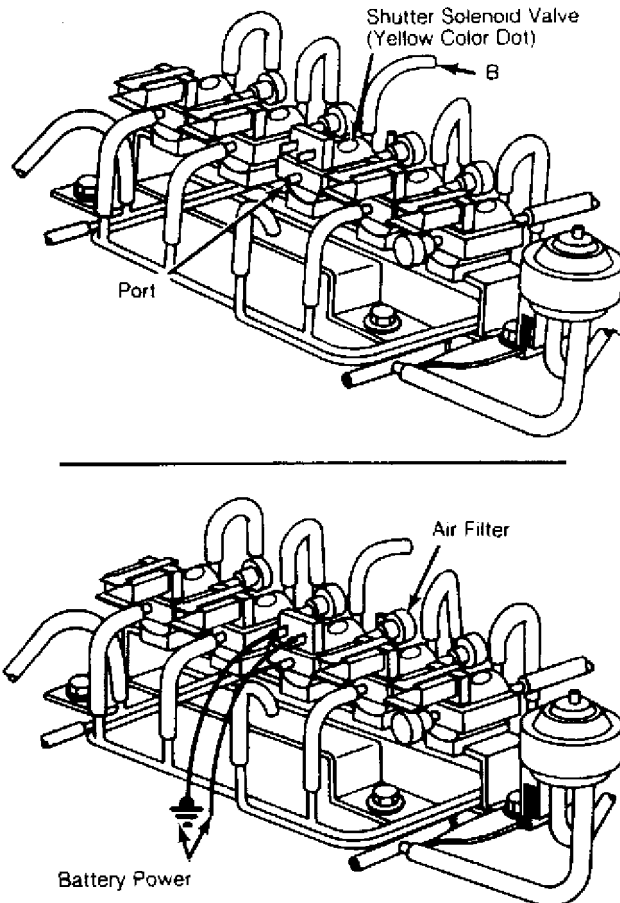

Fig. 3: Testing Shutter Solenoid Valve
1) Disconnect vacuum sensing tubes from shutter solenoid valve (Yellow color dot). Blow through solenoid valve through vacuum hose "B" shown in Fig. 3; air should go through valve and escape at front port.